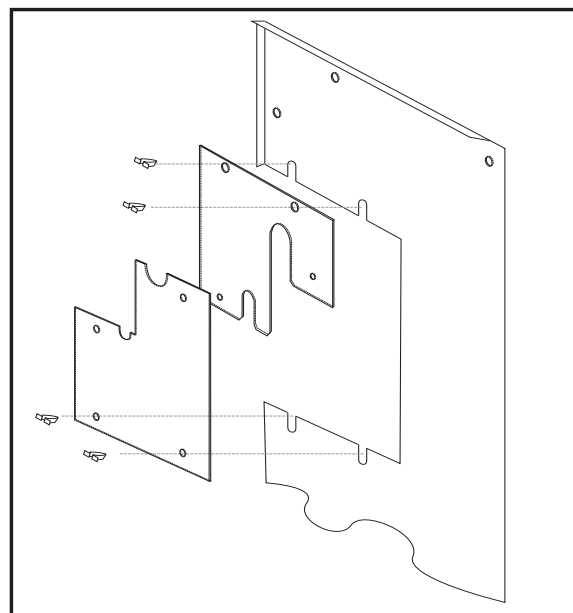

Figure 5. Exploded View for Close-Off Plates
6. Slide the close-off plates around the refrigerant lines and install with the dart clips provided. See Figure 5.